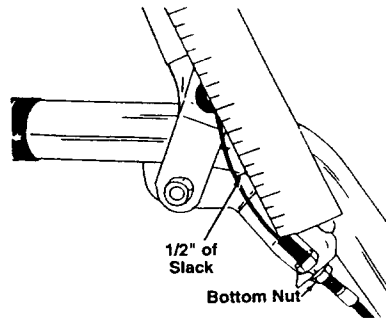

FIGURE 7
- With the clutch lever released (in the "up" position), adjust the bottom nut at the cable bracket so there is 1/2" of slack in the control wire as shown in figure 7. Tighten the upper nut against the bracket. Squeeze the clutch lever against the handle. The control wire should now be straight.